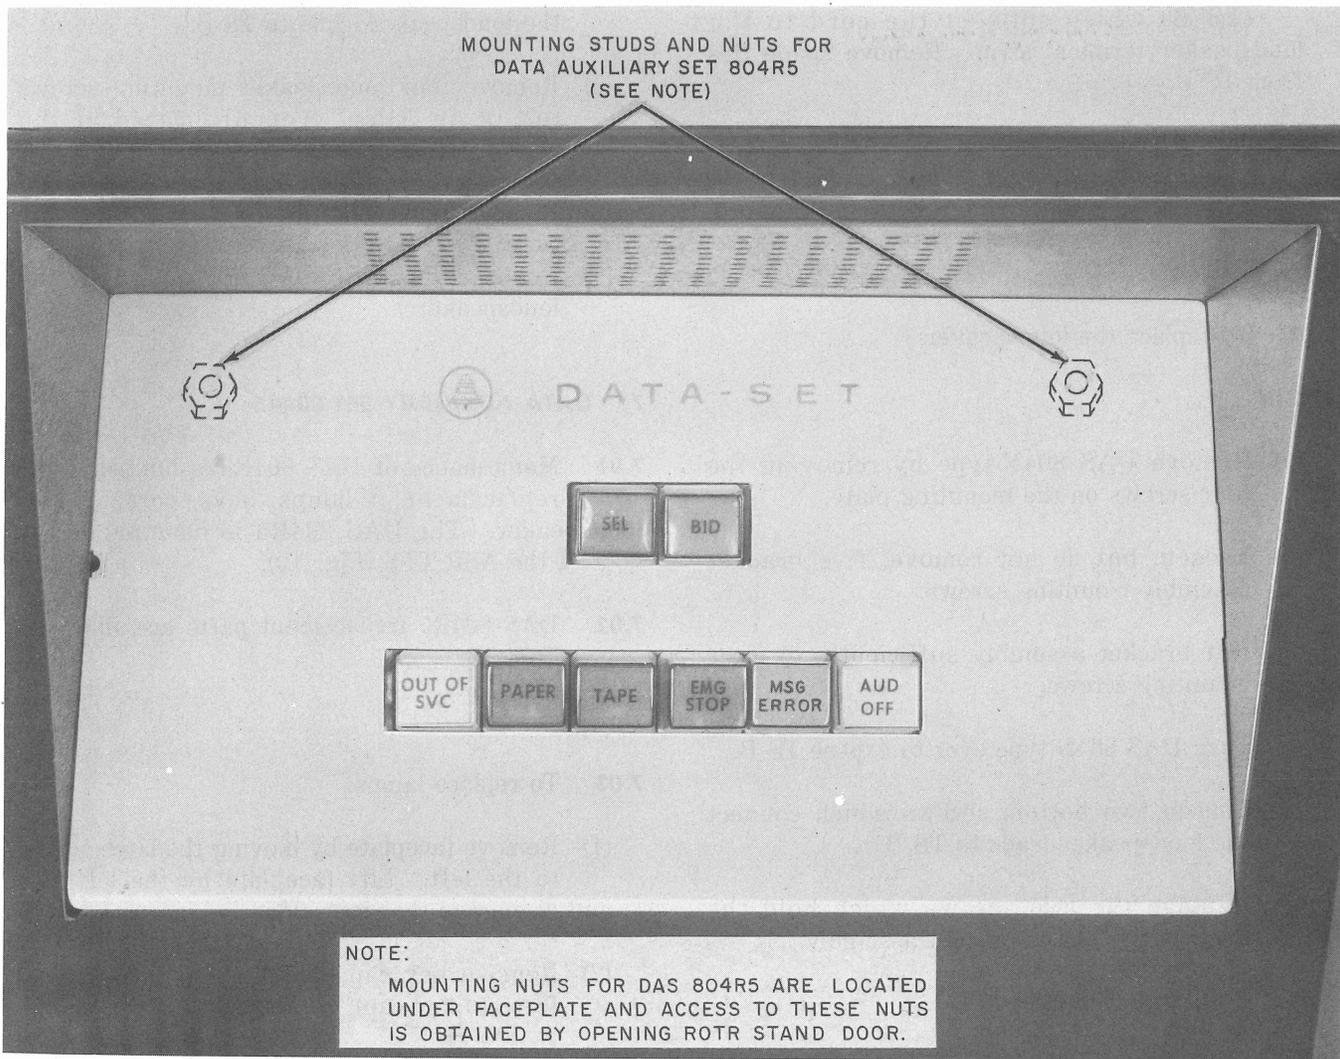

Fig. 10—DAS 804R5 Mounted in the Door of a 37 ASR TTY
7.01 Maintenance of DAS 804R5 is limited to the replacement of lamps, keys, cord, and/or loudspeaker. The DAS 804R5 is mounted in the door of the ASR TTY (Fig. 10).